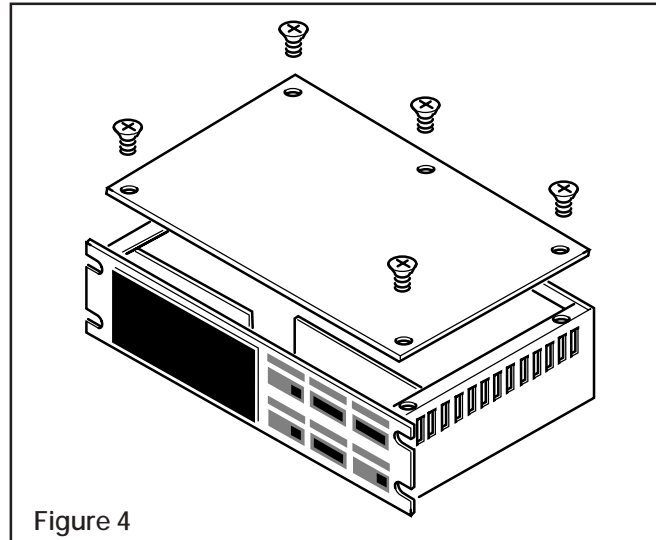

Figure 4
1. Remove five Phillips head screws and top cover of WV220 (See Fig. 4)